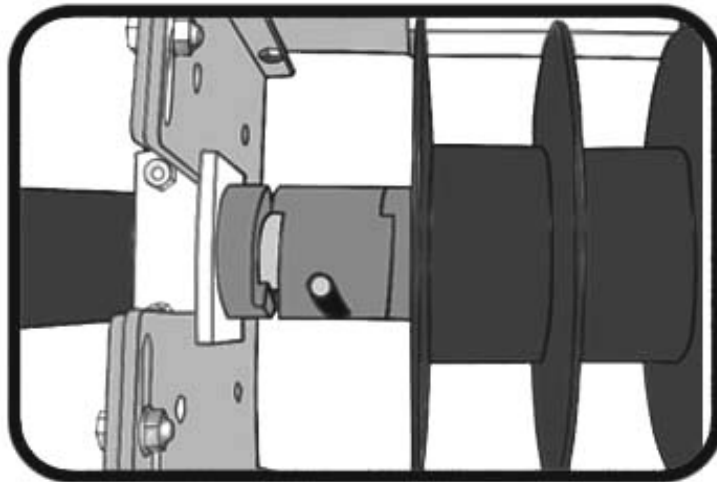

Fig. 6
Step 4: Run the motor to engage the Double Dog Gear on the opposite side (*the side nearest the Rope Reel*). The Gear should push the mechanism into its correct. Watch for a clean and tight engagement. **Fig. 6**, below, shows a correctly engaged Double Dog.